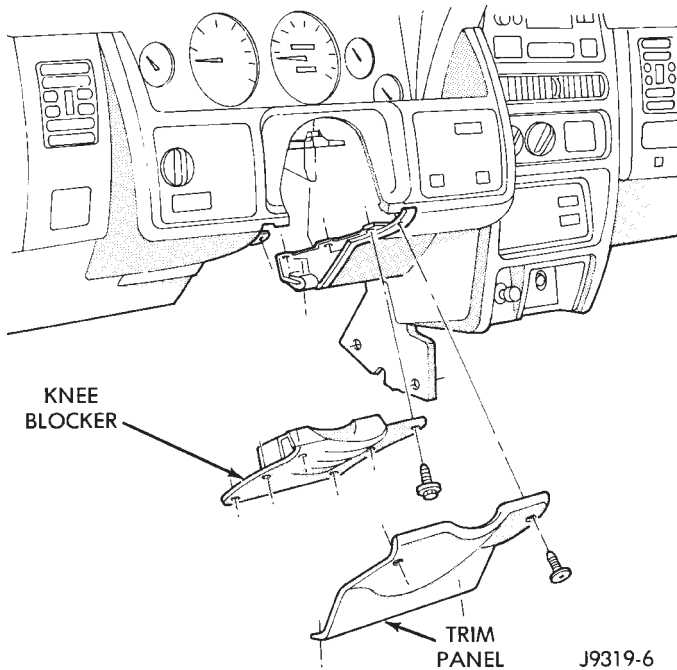

Fig. 2 Steering Column Trim And Knee Blocker
- (1) Disconnect negative cable from the battery.
- (2) Remove tilt lever (tilt column only).
- (3) Remove both upper and lower steering column covers. Requires removal of 3 screws (Torx T-20).
- (4) Remove 4 screws holding steering column trim panel (Fig. 2).